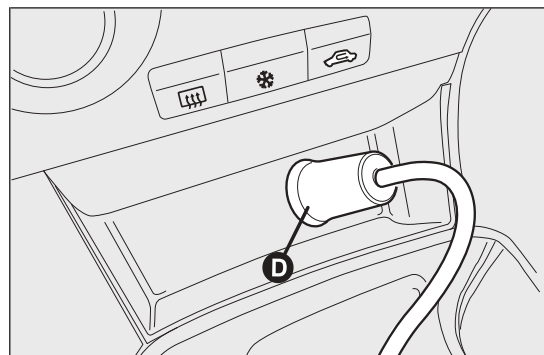
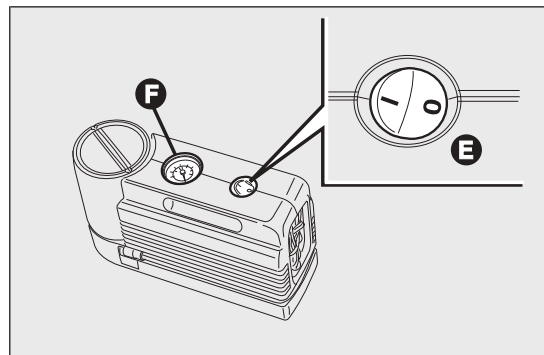

fig. 135
fig. 136
- make sure that switch E fig. 136 for the compressor is in position 0 (off), start the engine, insert plug D fig. 135 into the cigar lighter socket and switch on the compressor by placing switch E fig. 136 in position I (on). Inflate the tyre to the pressure specified in the "Cold tyre pressures" paragraph in "Technical data" chapter. Check tyre pressure on pressure gauge F fig. 136 with